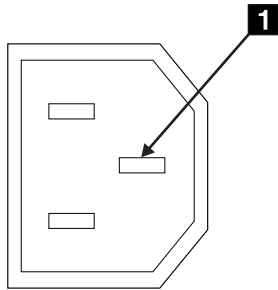

Figure 12. Ground pin (2104 Model TS4)
- c. Check for continuity between the chassis of the 2104 Model TS4 and the ground pin **1** of the power connector on each fan-and-power-supply assembly. See Figure 12.